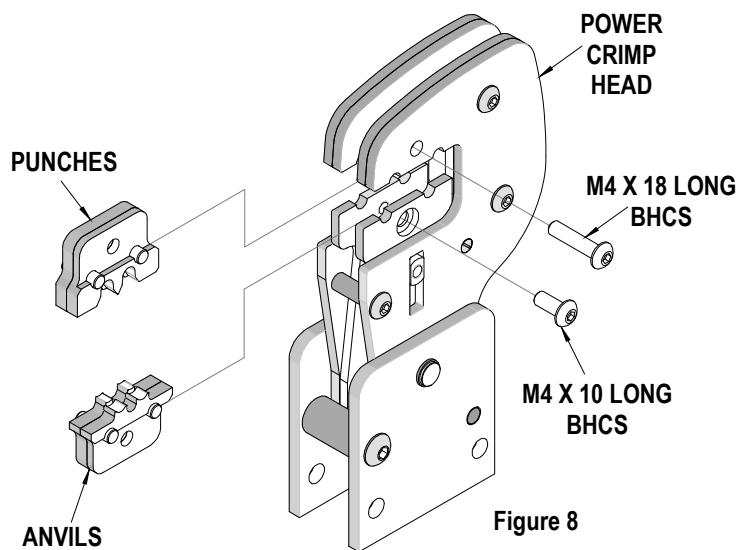

Figure 8
2. Insert the punches into the top slots of the nest. Install the M4 x 18 long BHCS and tighten in place. See Figure 8.